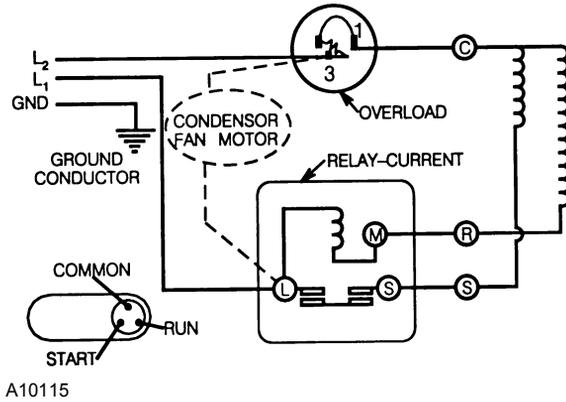

Figure 14. Compressor Schematic
- Check relay (See Figure 14.) Unscrew lead terminals and remove relay from compressor. (NOTE: keep relay upright)
- Check compressor windings as shown in Figure 14.